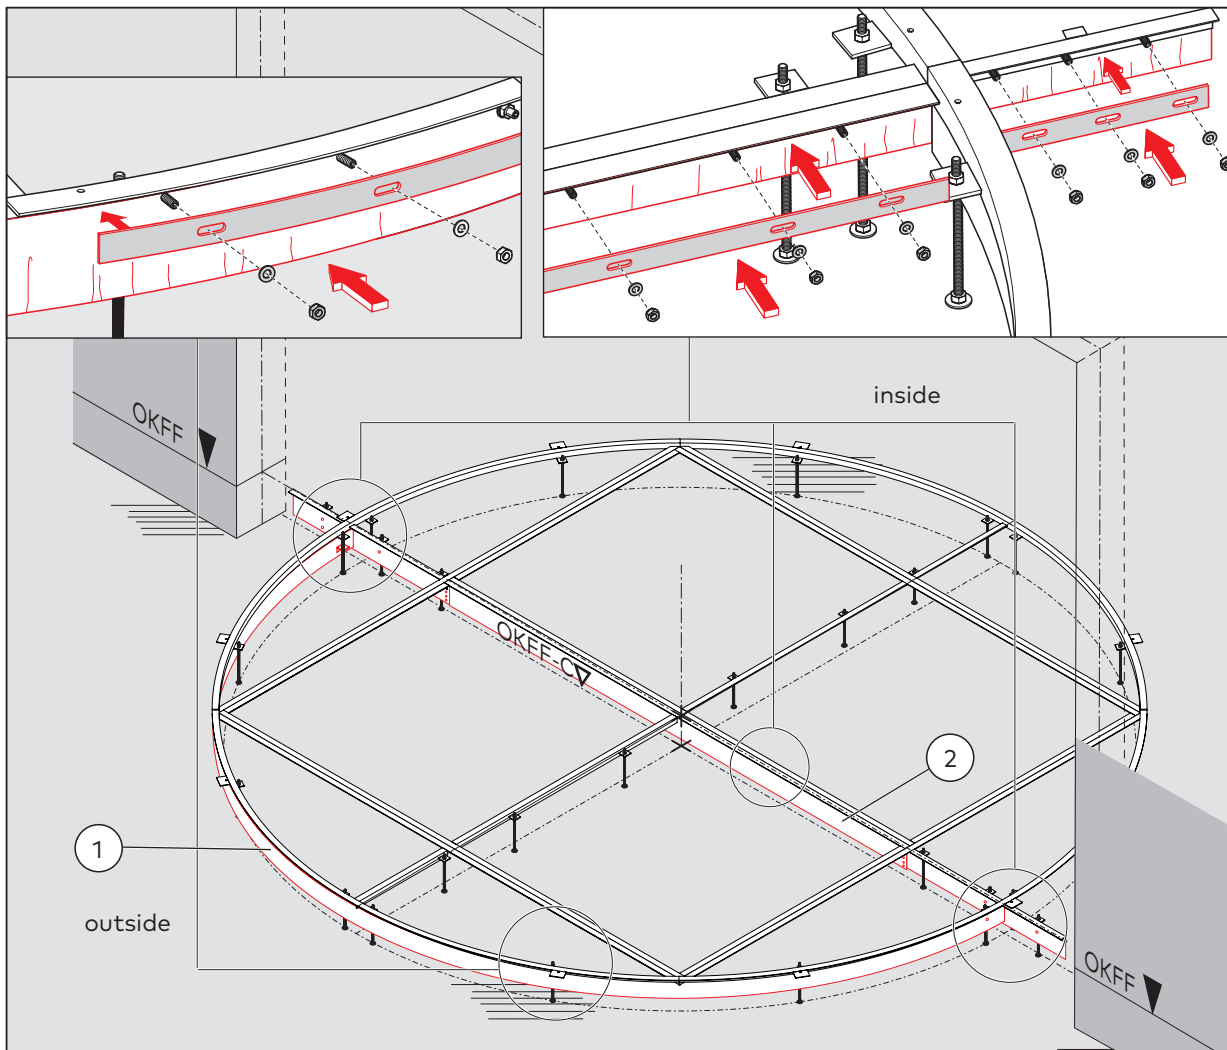

Fig. 14 Sealing the floor ring
1. Seal the floor ring with a clamping flange in the center (Fig. 14/2) or on the outer circumference (Fig. 14/1), depending on the variant.